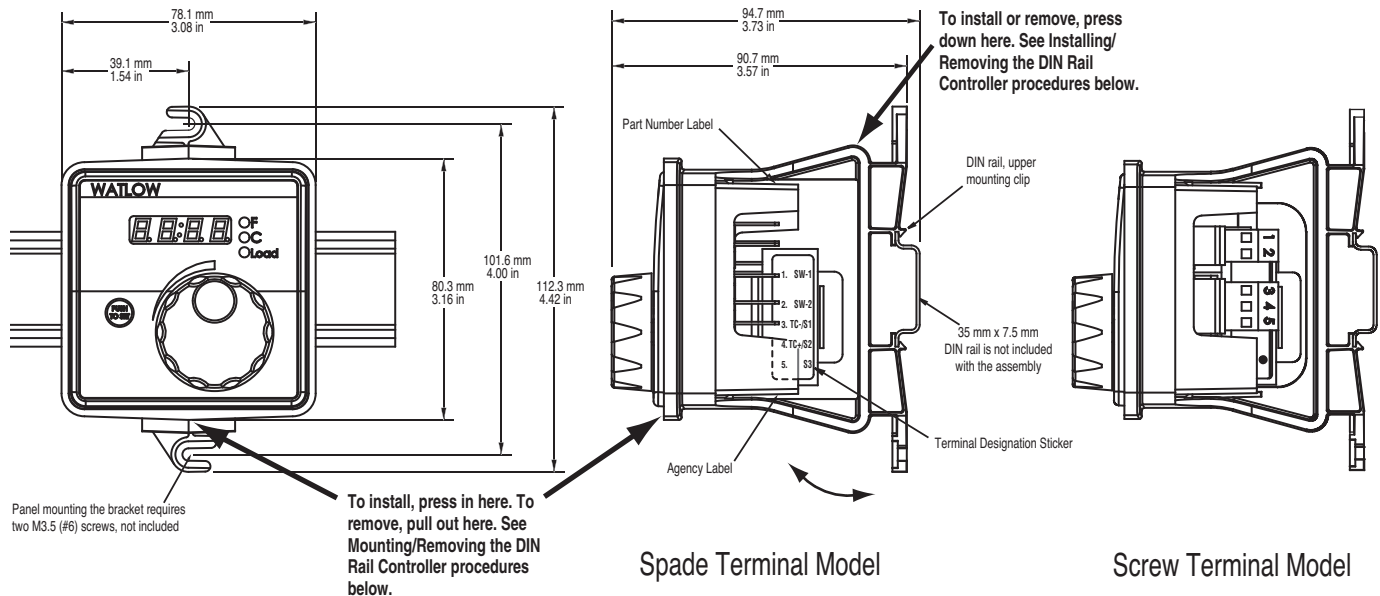

Figure 3a
2. Drill and tap two 2.7 mm (0.106 in) diameter holes in the desired panel location. See Figure 3a above for hole locations.
1. Place the DIN rail upper mounting clip on the top edge of the DIN rail. See Figure 3a. DIN rail spec, DIN 50022, 35 mm x 7.5 mm (1.38 in x 0.30 in).
2. Press down firmly on the top back edge of the DIN rail bracket and push in on the bottom, front edge of the bracket, . The controller “snaps” securely onto the rail. See Figure 3a. If the controller does not snap on, check to see if the DIN rail is bent. Minimum clipping distance is 34.8 mm (1.37 in), the maximum is 35.3 mm (1.39 in).
3. While pressing down on the top, back edge of the DIN rail bracket, pull forward on the bottom, front edge of the DIN rail bracket. See Figure 3a.